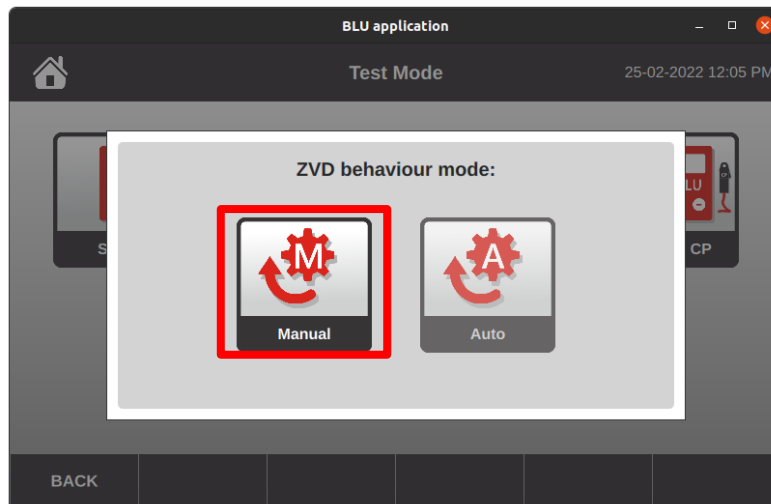

Figure 4-12: ZVD Test Modes
After the ZVD option has been selected, select option *Manual* on the next screen. *Manual* option means that ZVD needs to be started manually after battery voltage drops to 0 V. Alternative solution (automatic start of ZVD) is currently under development (Figure 4-12).
The test result name will include information on test mode and test type (*Single\_Const I*), test value (*1A*) and date when test is completed (*22\_7\_2020*), Figure 4-12. The information that the result is saved in the memory will disappear in few seconds, Figure 4-12.
- Total test time (*00:00:12* on the Figure 4-12),
- Final battery voltage (*11.6 [V]* on the Figure 4-12),